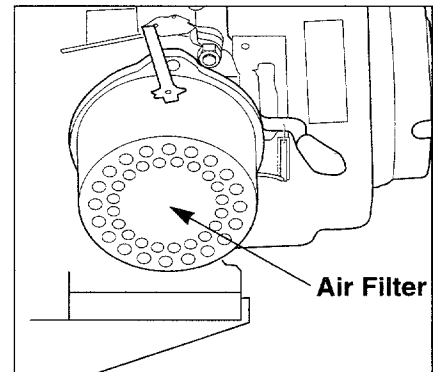

Figure 5-9: Engine Air Filter.
3. Place the cover (with filter inside it) on the base of the air cleaner. Align the two screw holes in the cover with the two screws in the base of the air cleaner. Refer to Figure 5-9.